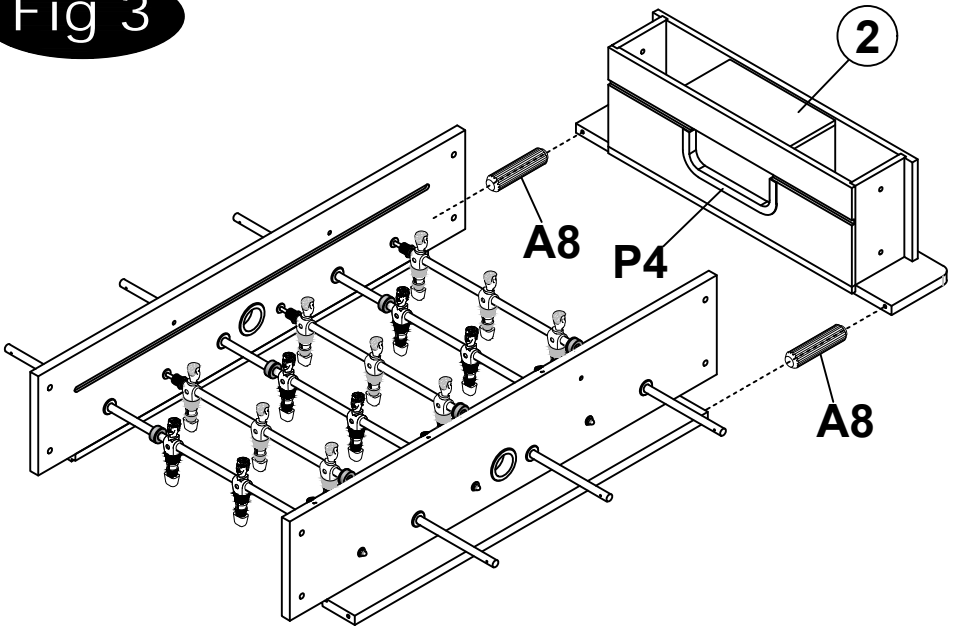

Fig 3
5. The Side Panels(#1) are connected to the End Panel(#2) by Wood Plug(A8), See FIG.3.